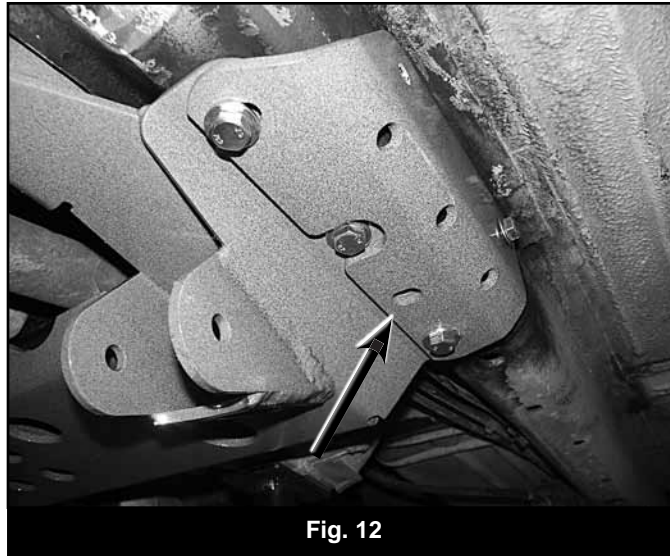

Fig. 12
26. Locate the second hole from the rear of the crossmember (Fig 12 - on both sides). Using the crossmember hole as a guide mark and drill the hole to 5/16".